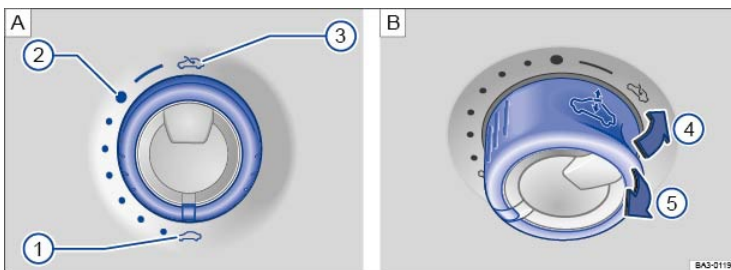

Fig. 33 In the headliner: Rotary switch for the power sunroof.
The rotary switch must be turned to its home position ⇒ Fig. 33③ to tilt the power sunroof.
⇒ Fig. 33 A
⇒ Fig. 33 B
- The switch ⇒ *Fig. 33* must be rotated to the Closed position  ①.
- Turn the rotary switch to position ⇒ Fig. 33① and pull down the rear part of the switch ⇒ Fig. 33⑤ until the power sunroof closes completely.